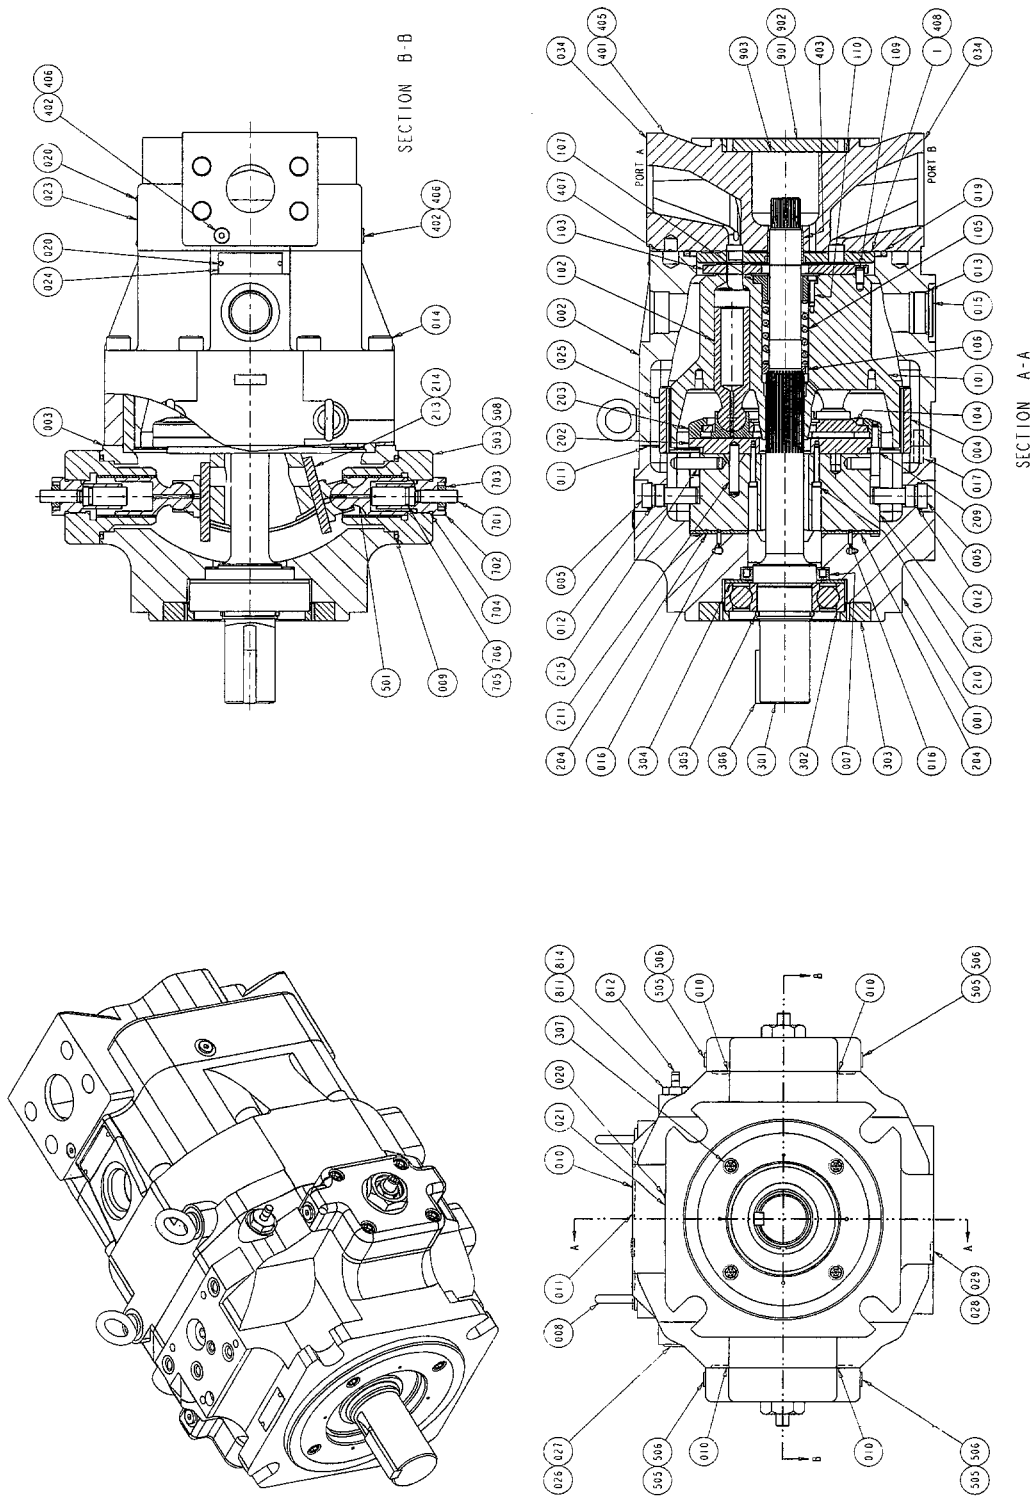

Figure 6. Cross-Section Drawing (517925) sheet 1.
Refer to figures 6 and 7. It will be advantageous to tag similar parts (particularly screws, plugs and o'rings) during disassembly to be certain they don't become confused with similar parts and to assure they will be returned to original location. Do not remove (locator) roll pins unless they are deformed or otherwise in need of replacement.
Refer to figures 6 and 7. Depending upon what part or parts are to be inspected, it may not be necessary to completely take apart all assemblies. If only the port plate (1) is to be inspected, it is possible to remove valve plate group (J) only. The driveshaft group (E) can be removed, without disassembling the rest of the pump, to access front driveshaft bearing (302) and/or shaft seal (007).
Refer to figures 6 and 7. The procedure for assembling the pump in basically the reverse order of disassembly. During assembly, install new gaskets, seals and o'rings. Apply a thin film of CLEAN grease or hydraulic fluid to sealing components to ease assembly. If a new rotating group is used, lubricate thoroughly with CLEAN hydraulic fluid. Apply fluid generously to all wear surfaces.